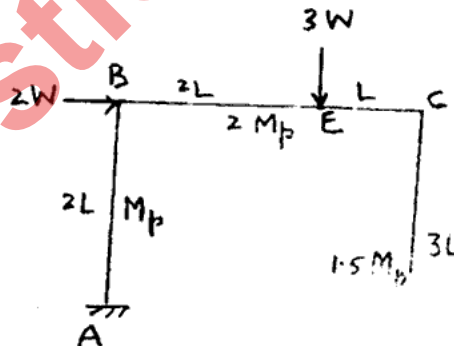

Fig 5
- (b) Compute the value of true collapse load for the portal frame loaded as shown in Fig.5.